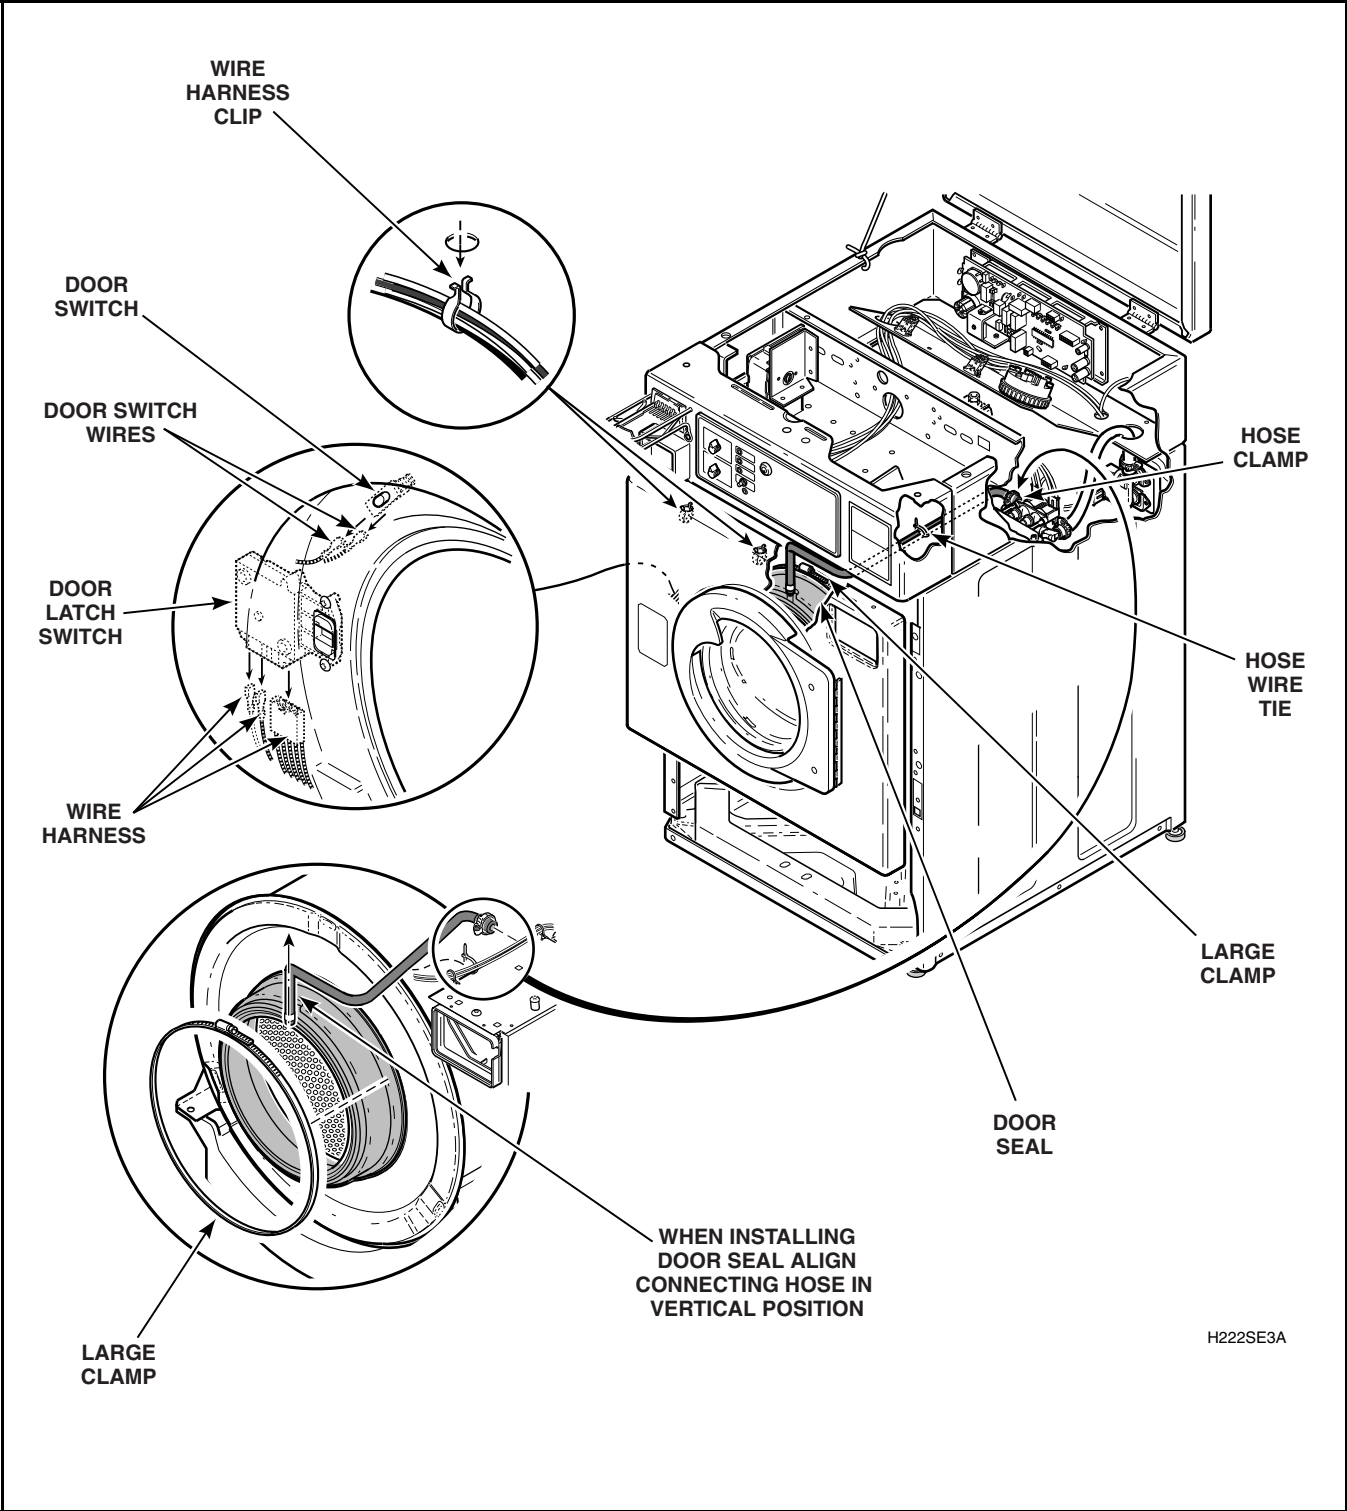

Figure 65
- j. Unplug wire harness from both the door latch switch and from the door switch. Refer to *Figure 65*. Remove clips holding wire harness and door seal hose along top flange of front panel and remove front panel.
**NOTE: Door seal hose and wire harness must be reinstalled in the appropriate clips and holes along top flange of front panel. Refer to *Figure 65*.**
- Unplug wire harness from both the door latch switch and from the door switch. Refer to *Figure 65*. Remove clips holding wire harness and door seal hose along top flange of front panel and remove front panel.
**NOTE:** The large wire clip holds both the wire harnesses and the door seal hose. Refer to *Figure 65*.
- Loosen hose clamp and remove dispenser valve-to-door seal hose connection at the dispenser. Refer to *Figure 65*.
- m. Loosen large clamp holding door seal to front of outer tub. Carefully pull seal off front lip of outer tub front panel and remove door seal and hose. Refer to *Figure 65*.
- f. Reach up between door seal and front panel. Refer to *Figure 65*. Press in on switch locking tabs and push switch out through front panel only far enough to allow removal of wires from switch terminals.
- d. While supporting door lock from the back (through door opening), remove two Phillips head screws holding door latch switch to front panel. Refer to *Figure 65*.
- e. Gently pull door lock out through door opening. Remove door lock only far enough to disconnect harness connector from door lock. Refer to *Figure 65*.
- (5) Unplug wire harness from both the door latch switch and from the door switch. Refer to *Figure 65*. Remove clips holding wire harness and door seal hose along top flange of front panel and remove front panel.